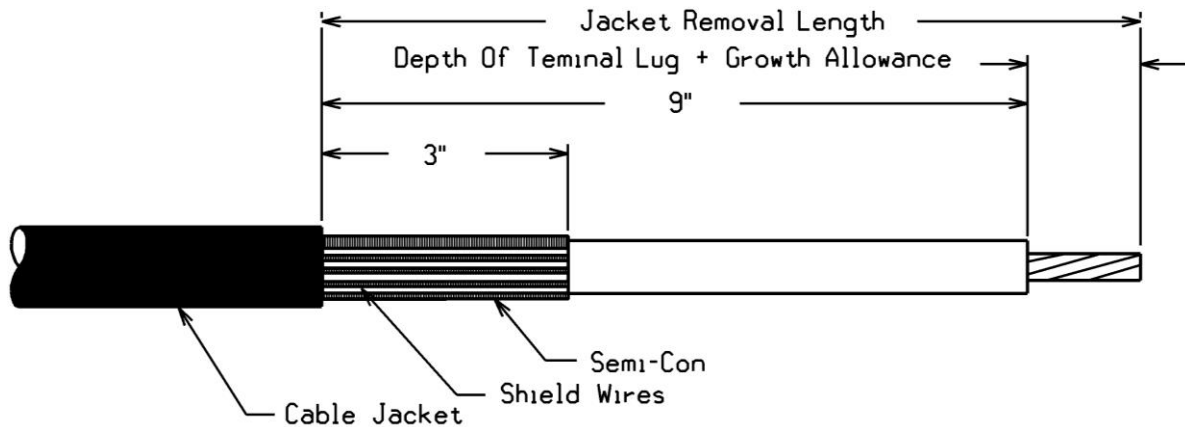

Figure 10
2. Prepare cable using dimensions shown in Figure 10. Be sure to allow for depth of terminal lug and growth of the aluminum lug (if used – see chart below).